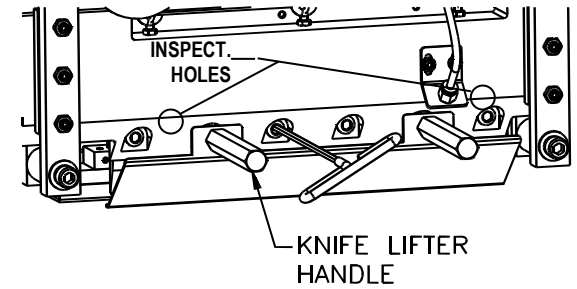

Figure 4-13. Knife Installation
28. Place the knife behind the knife bar while aligning the lifter handles to the open bolt slots in the knife bar as shown in Figure 4-13.
31. Place 4 knife bolts into the 4 available holes in the knife and use the T-handle wrench to secure them as shown in Figure 4-13.